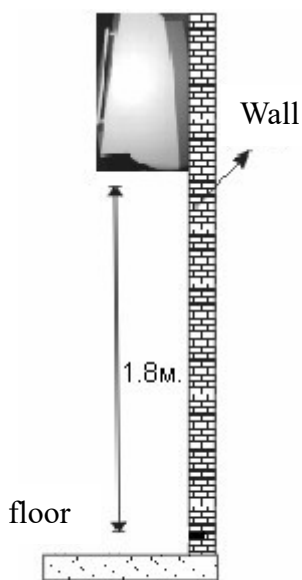

Fig 2
- The heater should be situated at least 1.8 meter above the floor. Fig.2
- You should make the holes in the wall on **59 cm** from each other horizontally and at least on 2 m over the floor. This way the heater should be at least on 1.8 m from the floor level. See fig. 2, 5 and 6